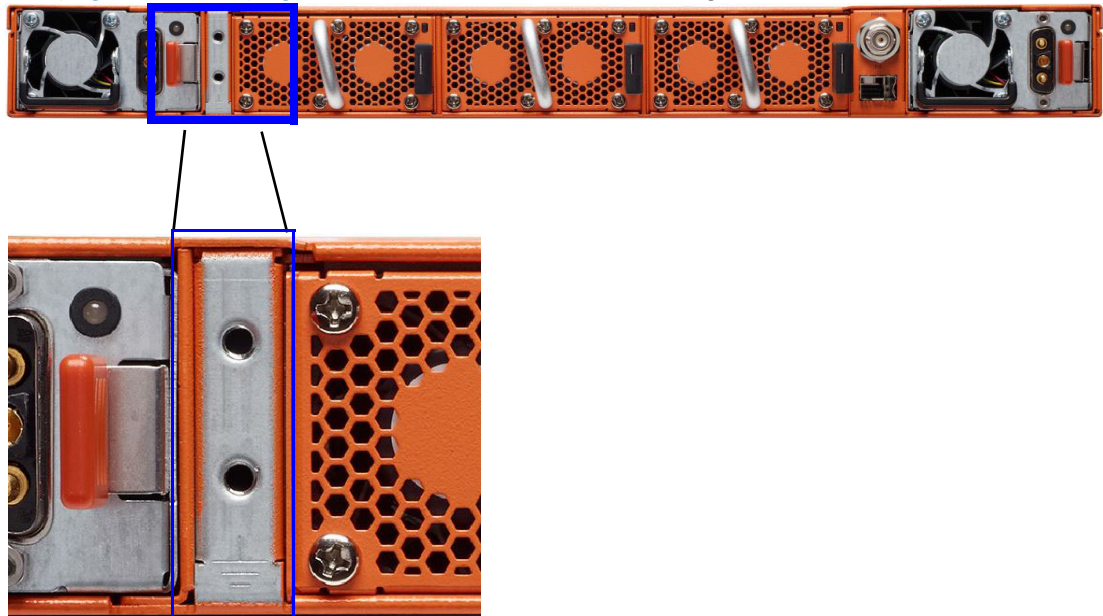

Figure 4-1: Holes for Ground Screws (DC-Powered GigaVUE-HC1)
1. Locate the grounding holes near the left corner at the rear of the chassis (Figure 4-1 on page 32 shows the location on a GigaVUE-HC1 node).